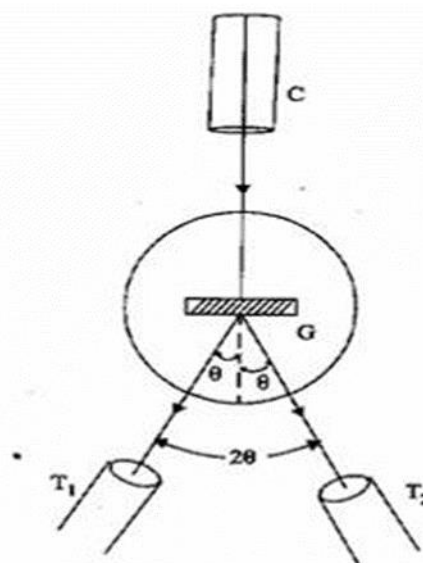

Fig. 4.2. Diffracted ray from grating
- The first order diffracted images are visible on either side of the central direct image (Fig 4.2), with prominent lines in violet, blue, bluish green, green, yellow, and red of the mercury spectrum are tabulated to determine the wavelength of each spectral line.